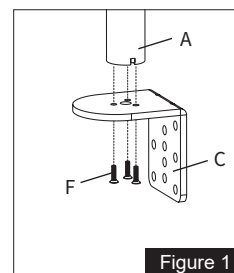

Figure 1
1. Install the clamp brace **(C)** to the pole **(A)** using x3 M5x14 bolts **(F)**. See Figure 1.